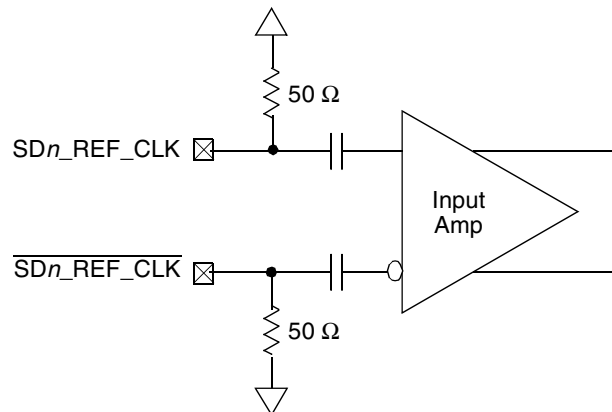

Figure 52. Receiver of SerDes Reference Clocks
Figure 52 shows a receiver reference diagram of the SerDes reference clocks.
- The $\overline{SDn_REF_CLK}$ and SDn_REF_CLK are internally AC-coupled differential inputs as shown in Figure 52. Each differential clock input ($\overline{SDn_REF_CLK}$ or SDn_REF_CLK) has a 50 Ω termination to SGND_SRDS_n (xcovss) followed by on-chip AC-coupling.